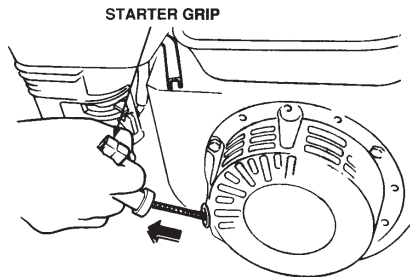

Figure 11. Starter Grip
- Grasp the starter grip (Figure 11) and slowly pull it out. The resistance becomes the hardest at a certain position, corresponding to the compression point. Pull the starter grip briskly and smoothly for starting.